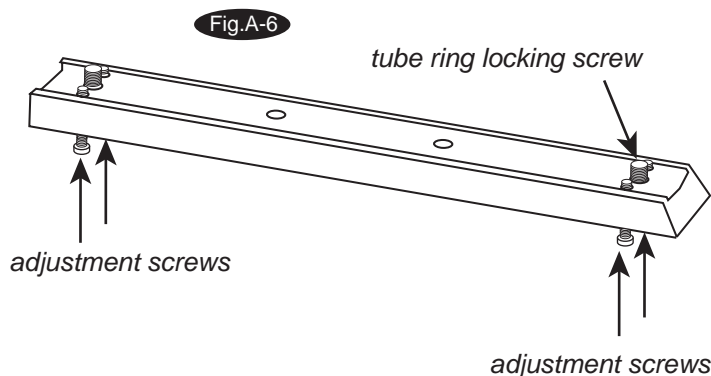

Fig.A-6
11. Now take a closer look at the mounting plate underneath the telescope tube. There should be a set of screws on each end, next to the tube ring locking screws (Fig.A-6). (If your mounting plate does not have these screws or screw holes, you will need to make modification to the plate.)